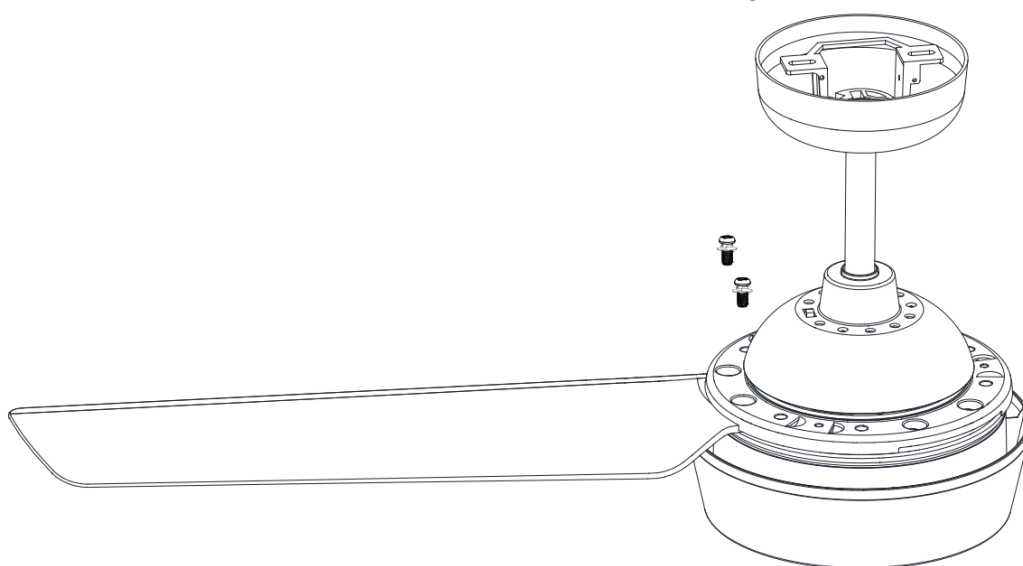

Fig. 5
1. Insert the blade into the slot of the rotating member of the fan motor assembly. Align the 2 holes on the blade with the 2 holes on the rotating member of the fan motor assembly, and use 2 blade screws with lockwashers (supplied in the fan parts bag) to secure the blade to the fan motor assembly. (Fig.5)